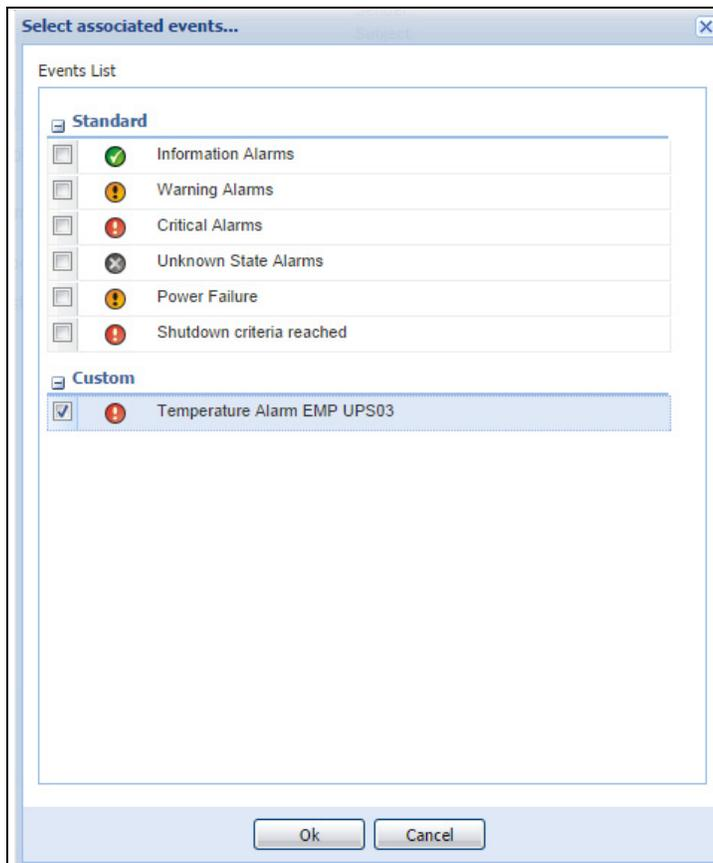

Figure 175. Select Temperature Event
3. Select the Temperature Event created previously. Click **Ok** (see Figure 175).